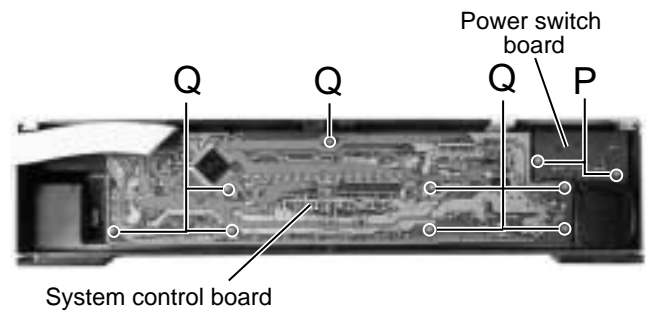

Fig.14
■ Removing the system control board / power switch board (See Fig.14)